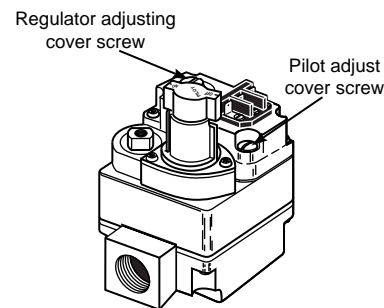

Figure 6. Pressure regulator adjustment
2. Remove "Reg. Adj." cover screw (see fig. 6).
4. Depress gas control knob slightly and turn clockwise to **OFF** (see fig. 6). If knob is in **ON**, turn clockwise to **PILOT**, then depress knob slightly and turn clockwise to **OFF**.
5. Wait fifteen (15) minutes to clear out any gas. If you then smell gas, **STOP!** Follow **B** in the precautionary information above. If you don't smell gas, go to next step.
9. Depress control knob all the way and hold in. **Immediately** light the pilot with a match. Continue to hold the control knob down for about one (1) minute after the pilot is lit. Release knob and it will pop back up. Pilot should remain lit. If it goes out, repeat steps 4, 5, 8, and 9.